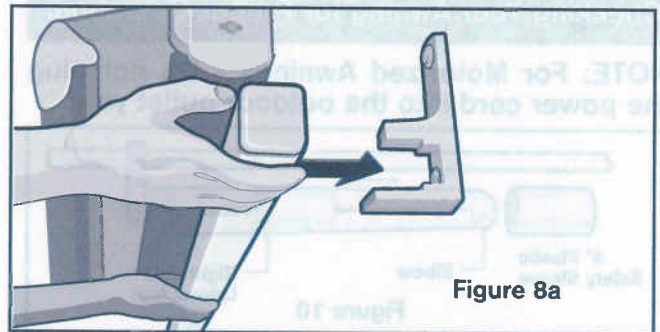

Figure 8a
18. With the proper help, lift the awning (with fabric/roller bar above the square bar) into the brackets and position so the ends line up with end points marked on the wall -see fig. 8a. Use the following weight chart to decide how much help you need.